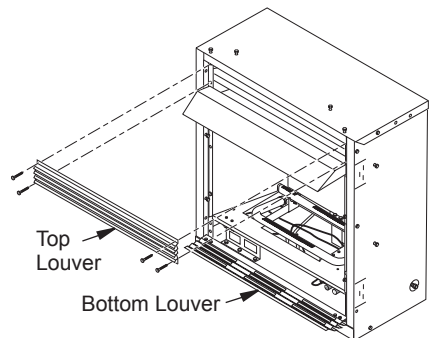

Figure 16 - Removing Top Louver and Opening Bottom Louver
- Remove 4 screws from upper louver (see Figure 16). Save these screws.
- Open lower louver door by swinging door down (see Figure 16).
10. Reinstall upper louver beginning with bottom screws (see Figure 16, page 13). Close lower louver door.
6. Reinstall upper louver beginning with bottom screws (see Figure 16, page 13) and close lower louver.